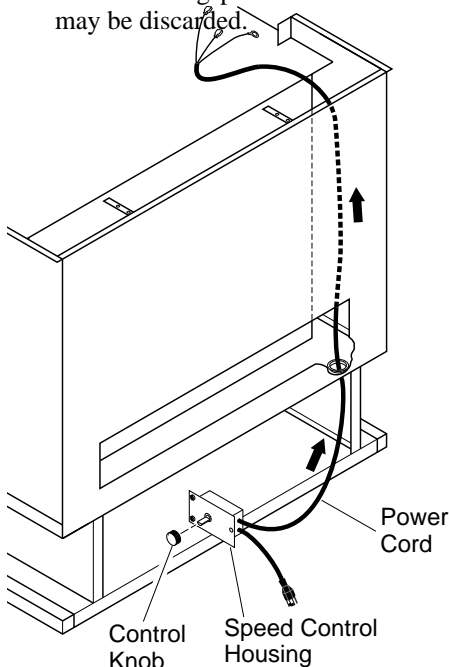
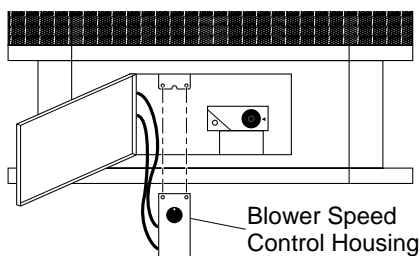

Figure 16 - Routing Power Cord
Figure 17 - Installing Blower Control Housing
9. Route ends of 3-wire power cord up from the lower control compartment through the plastic bushing, then up to the upper cavity of stove (see Figure 16, page 11).
13. Install plastic control knob onto output shaft of speed control housing (see Figure 16). Place speed control housing just inside control compartment door in front of stove (see Figure 17).
14. Using two screws provided in blower kit, mount blower speed control housing to mounting tab in left side of lower control compartment (see Figure 17).